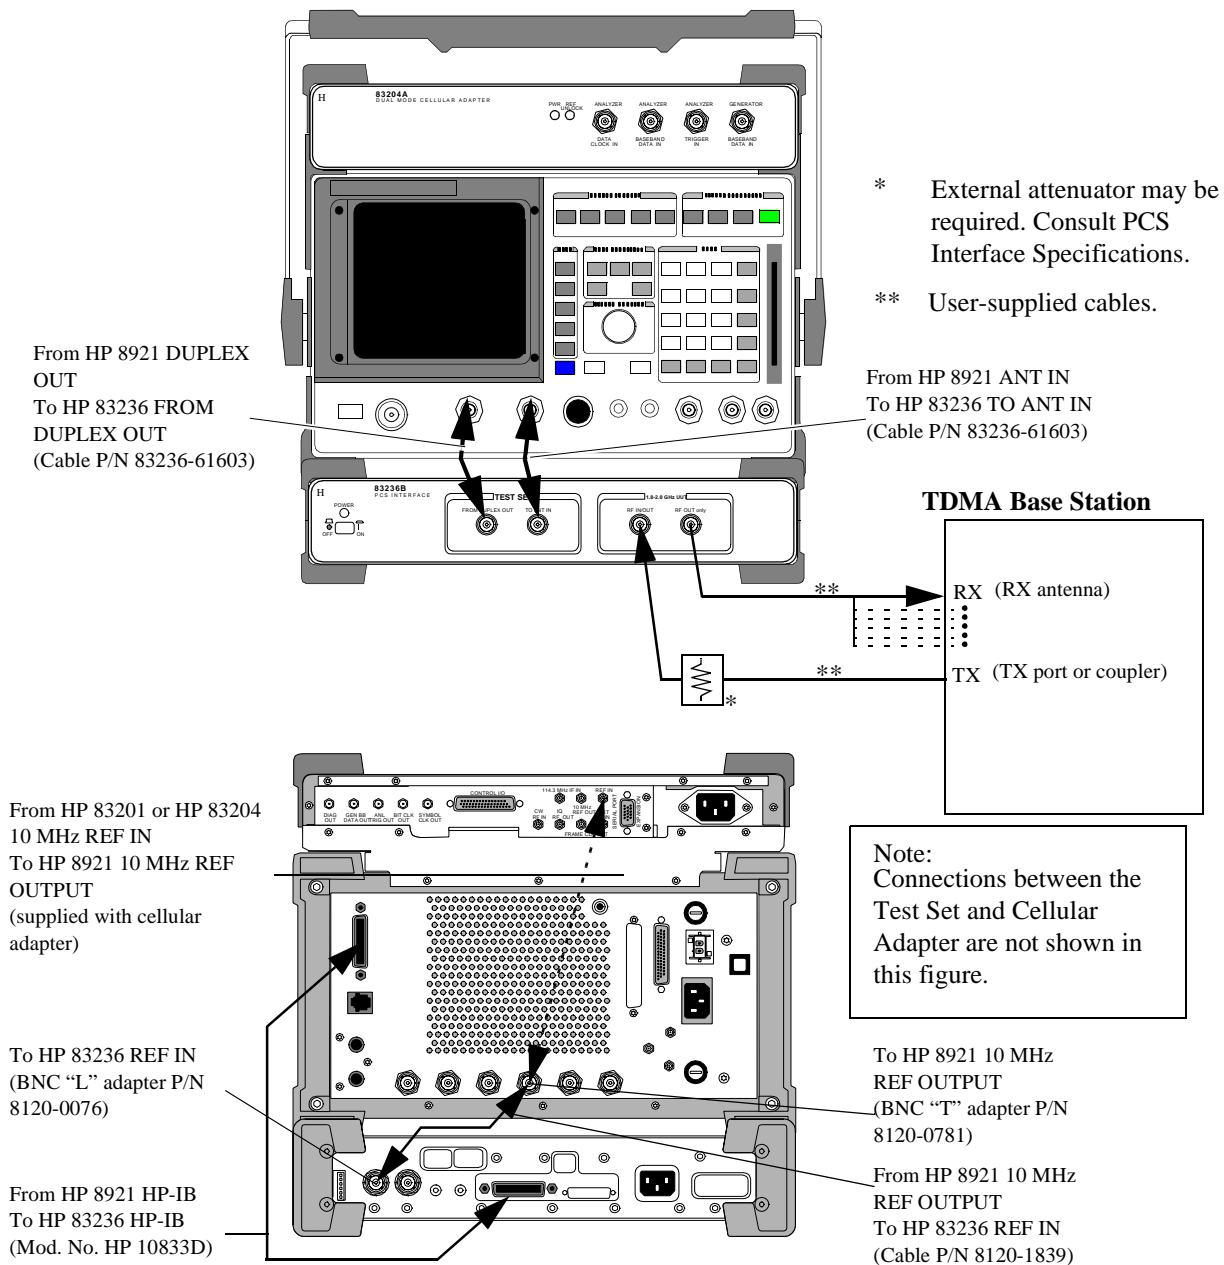

Figure 19 Connection Diagram for the HP 8921 Test Configuration (TDMA Base Station Tests with Frame Clock)
- TDMA base station without frame clock: See figure 19.